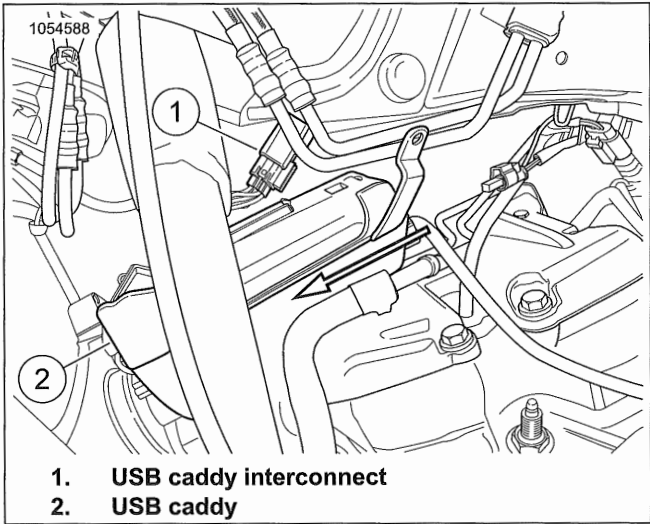

Figure 7-147. USB Caddy Interconnect
- 4. See Figure 7-147. Slide USB caddy (2) forward and disconnect USB caddy interconnect (1).
- 1. See Figure 7-147. Slide USB caddy (2) from front of engine and connect USB caddy interconnect (1).